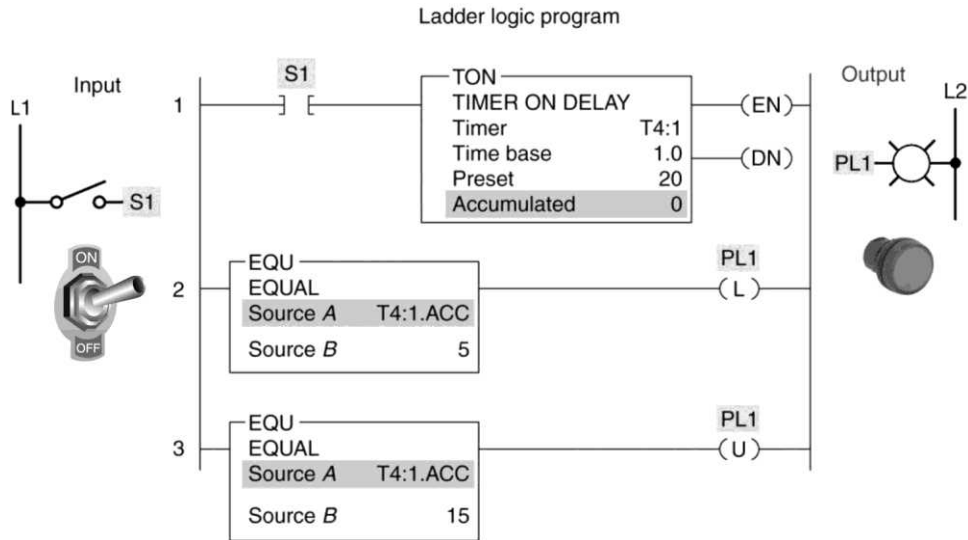

Figure 10-29 On-delay timer program for assignment 5.
5) An on-delay timer program implemented using the EQU instruction is shown in Figure 10-29 and described in the text. Prepare an I/O connection diagram and ladder logic program that will simulate its operation. Use addresses that apply to your PLC installation. Enter the program into the PLC, and verify its operation.